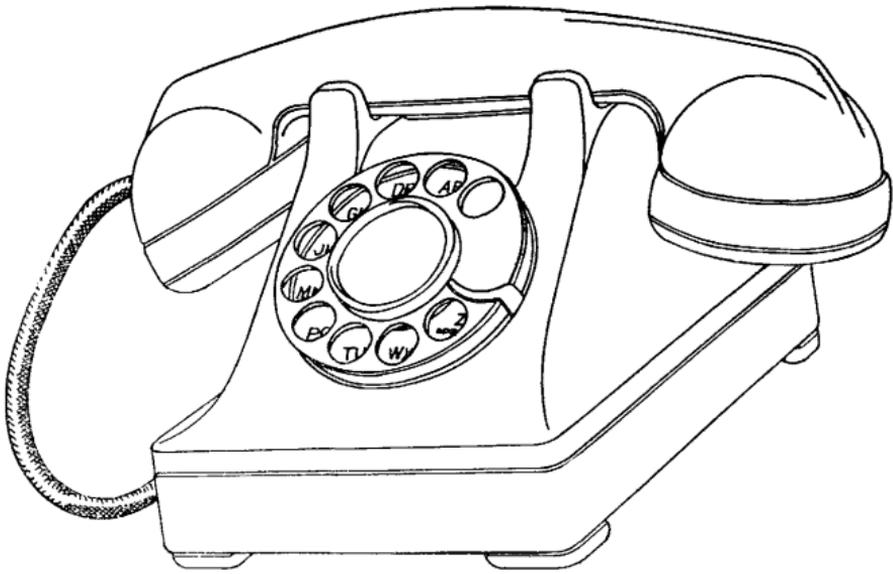

Fig. 1—Front View—302-type Telephone Set
2.01 The 302-type telephone set shown in Figs. 1 and 2 is used at common battery antisidetone stations on non-polarized ringing lines of the following classes of service:
2.04 The 303-type telephone set in external appearance is the same as the 302-type shown in Figs. 1 and 2, but is arranged for use at key stations of wiring plans on the 1A key telephone system where it is necessary to connect the ringing bridge and talking circuit to different lines. The set is equipped with a four-conductor mounting cord, two conductors of which are used for connecting the ringing circuit and the remaining two for connecting the talking circuit. The manual set is coded 303A and the dial sets 303B, 303C, and 303D.
2.10 The 304-type telephone set, the external appearance of which is the same as the 302-type shown in Figs. 1 and 2, is used in dial common battery central office areas on the tip-party stations of message rate, automatic ticketing and A.M.A. However, in addition to the dial sets, a manual set, coded 304A, and equipped with an apparatus blank is provided for use at tip-party stations where cut-over to dial message rate service is contemplated. The dial sets are coded 304B, 304C and 304D and all sets are equipped with a three-conductor mounting cord.